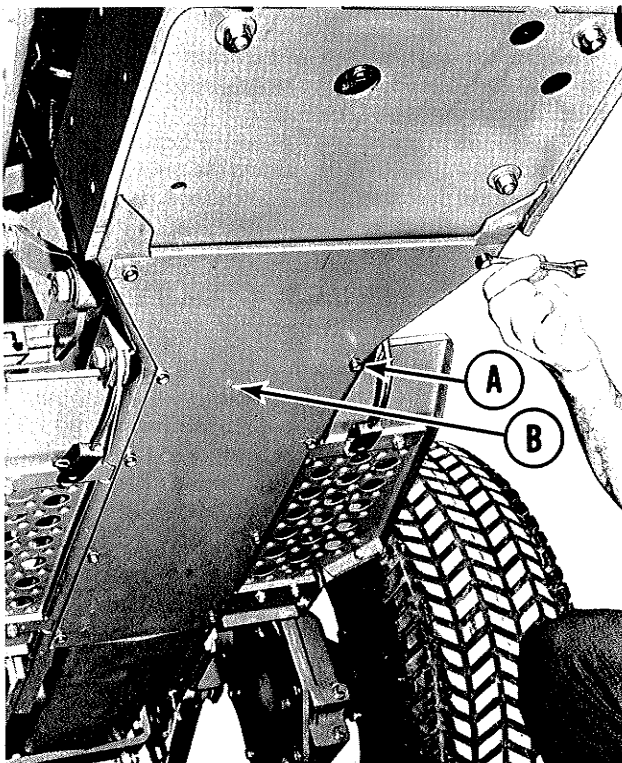

Figure 11. Dust shield on underside of tractor frame.
1. See figure 11. Using a 3/8" wrench, remove the 10 capscrews (A) holding the dust shield (B) to the underside of the tractor frame.
2. See figure 11. It is not necessary to remove this shield, but the locking nuts on the ends of the turnbuckle are more easily reached from below. Using a 3/8" wrench remove the 10 capscrews (A) holding the dust shield (B) to the underside of the tractor frame.
1. See figure 11. Remove the ten capscrews and dust shield from the underside of the tractor frame.